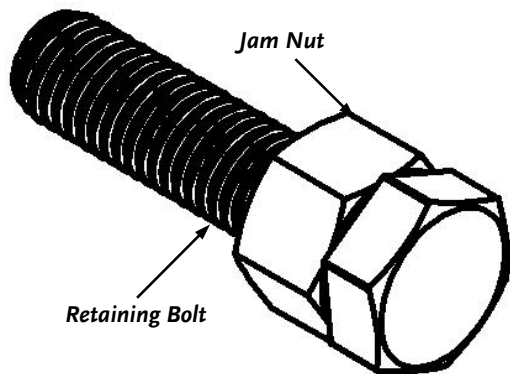

Figure 14
10. Back the Jam Nuts on the four Retaining Bolts (**Figure 14**) all the way to the head of the Bolts.
Note: You will need to back all Jam Nuts off, to the head of the Retaining Bolts for all hardware shipped in the Hardware kit prior to installation (**Figure 14**). Be sure to tighten the Bolt first and then secure it by tightening the Jam Nut.